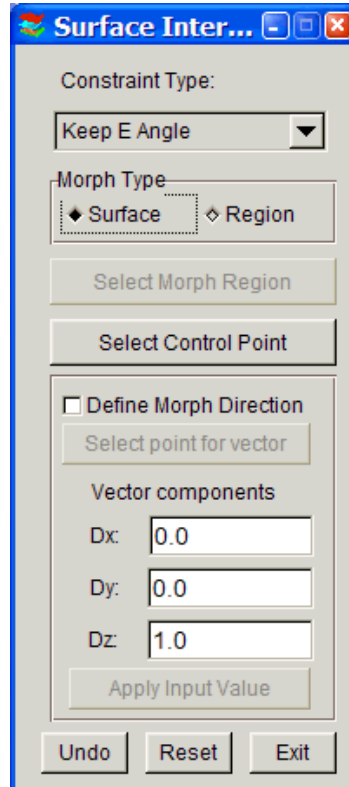

Figure 6.4.3 Surface Morphing - Interior
- After selecting a surface, the program will display a dialog window as shown in Figure 6.4.3.